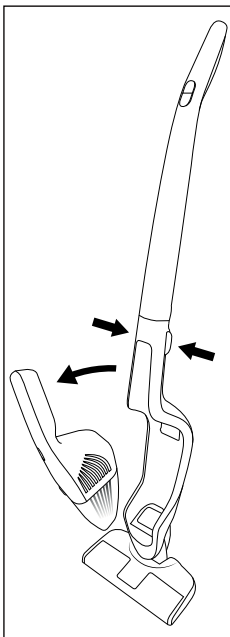

Fig. 3
- 4) Then pull the hand element **3** upwards and forwards out of the hand element recess **13** (Fig. 3).